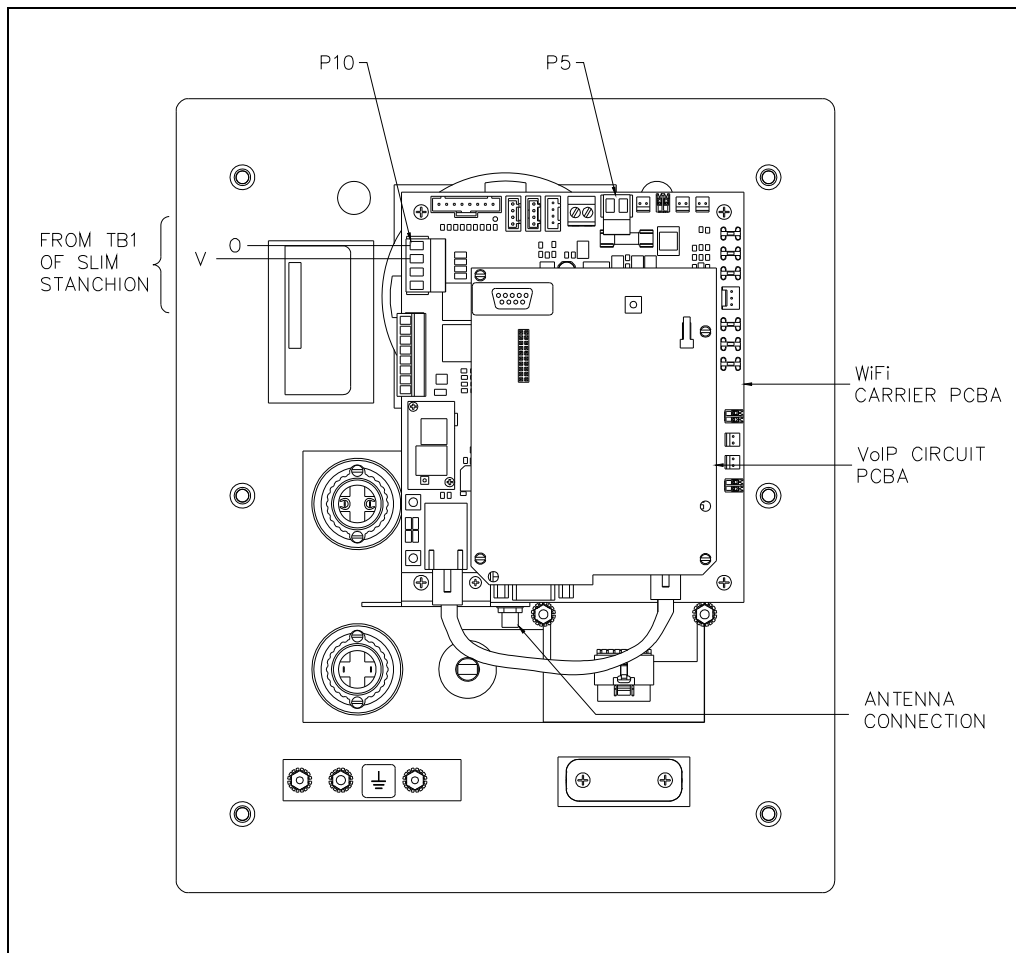
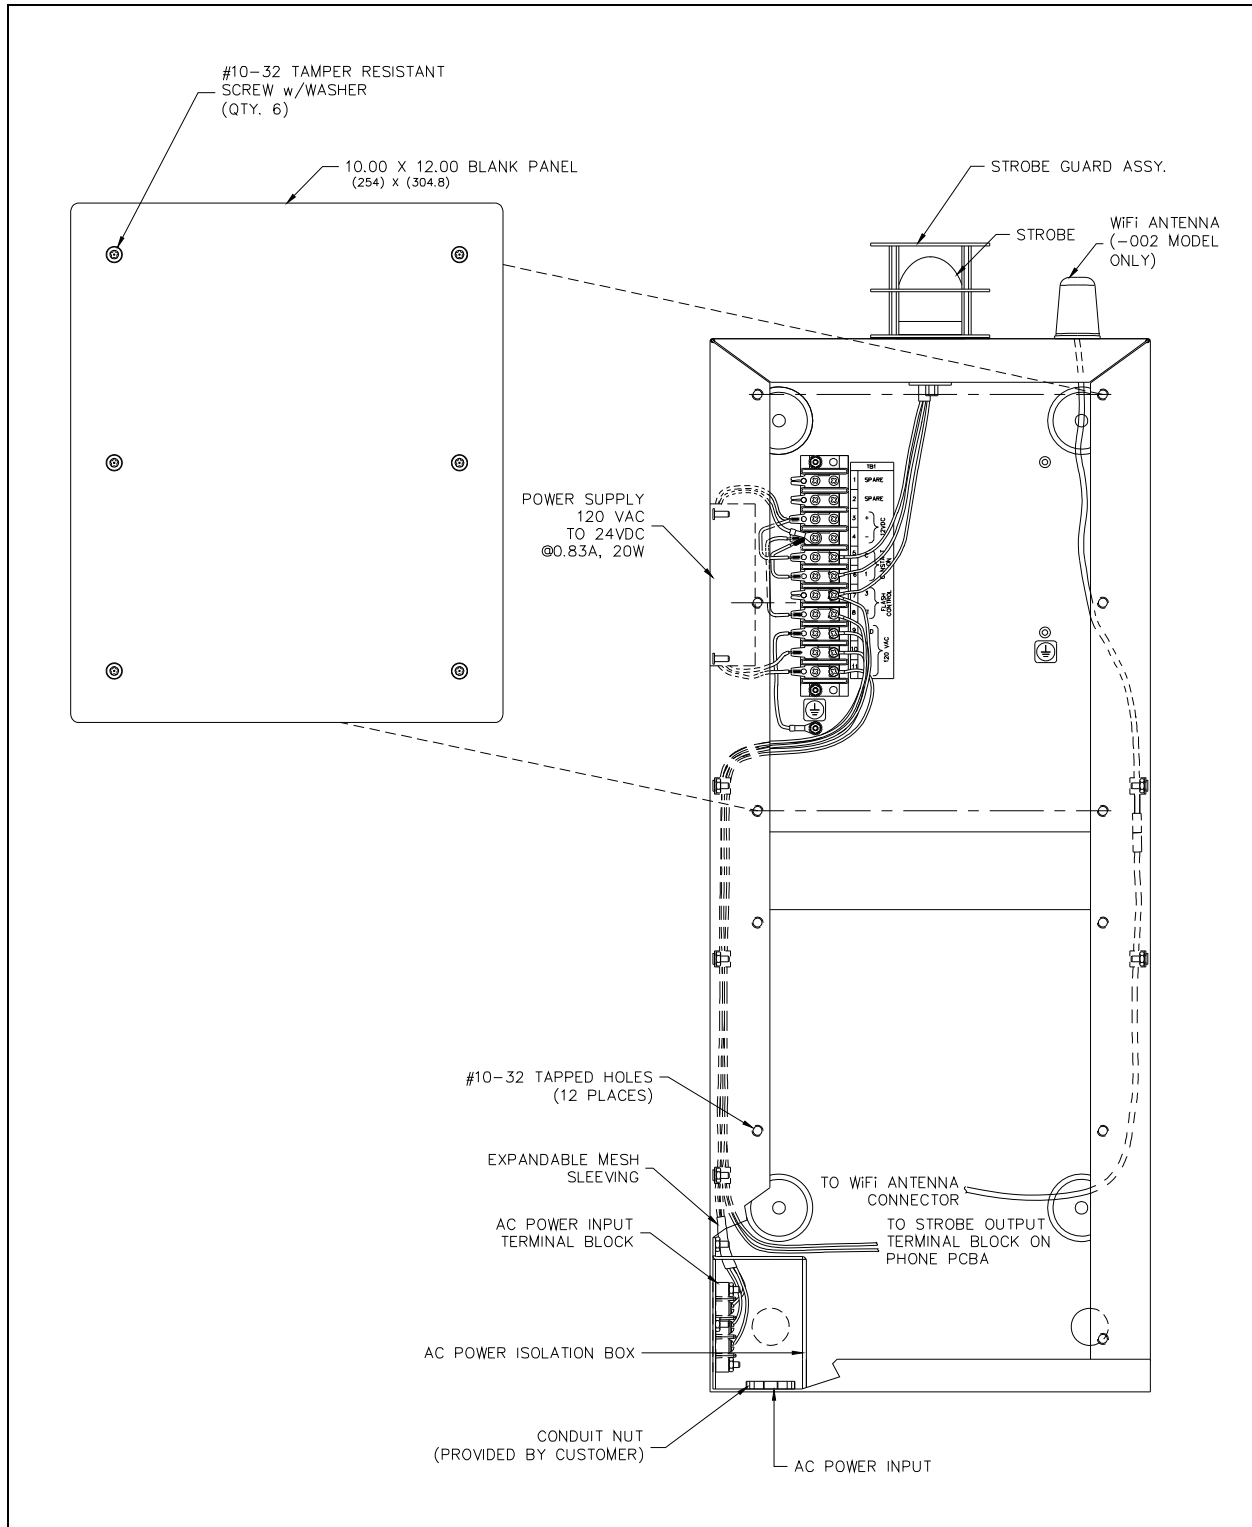

Figure 5.
Figure 6.
4. If utilizing PoE, connect the power to the system as indicated in the PoE manual. If utilizing local power, connect the positive conductor to the (+) terminal and the negative conductor to the (-) terminal of P5 on the telephone (customer-supplied wiring). Connect the positive conductor to the (+) terminal (3) and the negative conductor to the (-) terminal (4) of the TB1 located in the top section of the stanchion. See Figure 5 and Figure 6 for 24 V dc wiring as well as the appropriate telephone installation manuals.
Refer to Figure 5 and Figure 6.
2. Install the violet (V) and orange (O) beacon wires from inside the stanchion to P10 on the WiFi Carrier PCBA as shown in Figure 5.
4. WiFi telephones require a local power source to operate. Each WiFi Telephone includes terminal block P5 for connection of local power to the telephone. Connect the positive conductor to the (+) terminal and the negative conductor to the (-) terminal of P5 on the telephone (customer-supplied wiring). Connect the positive conductor to the (+) terminal (3) and the negative conductor to the (-) terminal (4) of the TB1 located in the top section of the stanchion. See Figure 5 and Figure 6 for 24 V dc wiring as well as the appropriate telephone installation manuals.